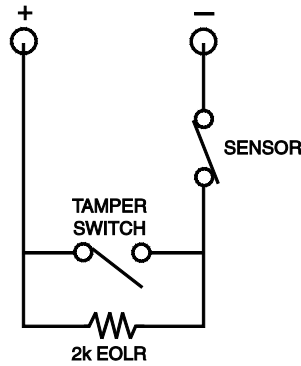

Figure 3-12: Wiring a Normally Closed Sensor Loop for Tamper Supervision
- **If you are using a normally closed sensor**, the tamper switch must be normally open. Refer to *Figure 3-12* for the wiring configuration.